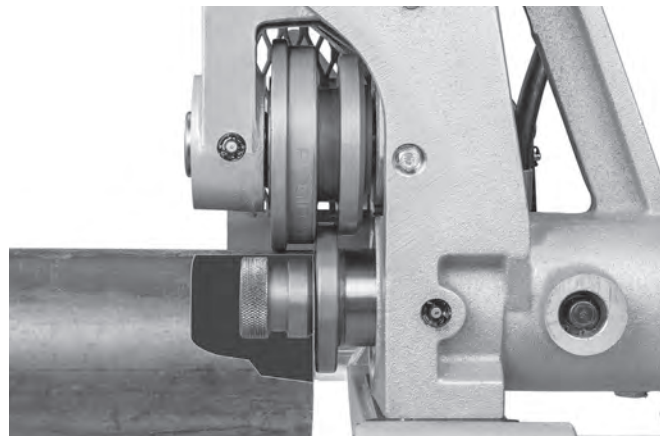

Figure 11 – Placing Pipe Over Drive shaft, Flush to Drive Shaft Flange (Stabilizer Removed for Clarity)
3. Appropriate pipe stands must be available to support the pipe. Adjust the height of the pipe stands so that the pipe will be level and the top inner diameter of the pipe will sit on top of the drive roll (See Figure 11).
pipe contacting the top of the drive shaft (Figure 11). Make sure the pipe is stable and secure.